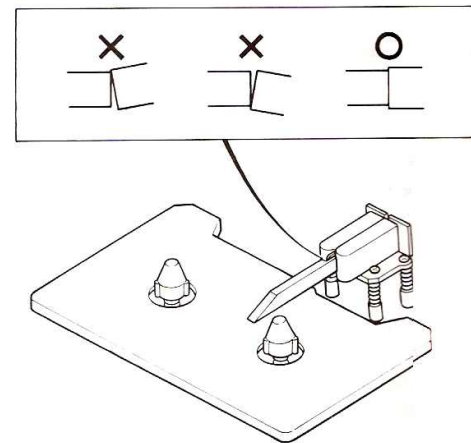

Fig. 4-5
3. Apply jig B to the head as shown in Fig. 4-5, to check tilt. If necessary, adjust screws E and F *evenly* (until the head is flush with the jig). Rotational amount of both screws E and F should be the same and be limited within 1/8 turn.
- 3). 図4-5の様に治具Bをヘッドに当てて、チルトを確認しヘッドが治具に対して垂直になる様に、ネジE, Fを同量(1/8回転以下)回し調整する。
8. Apply jig B to the head as shown in Fig. 4-5, to check tilt. If necessary, adjust screws A and B *evenly* (until the head is flush with the jig). Rotational amount of both screws A and B should be the same and be limited within 1/4 turn.
8). 図4-5 の様に治具Bをヘッドに当てて、チルトを確認し、ヘッドが治具Bに対して垂直になる様にネジA、Bを同量(1/4回転以下) 回し調整する。